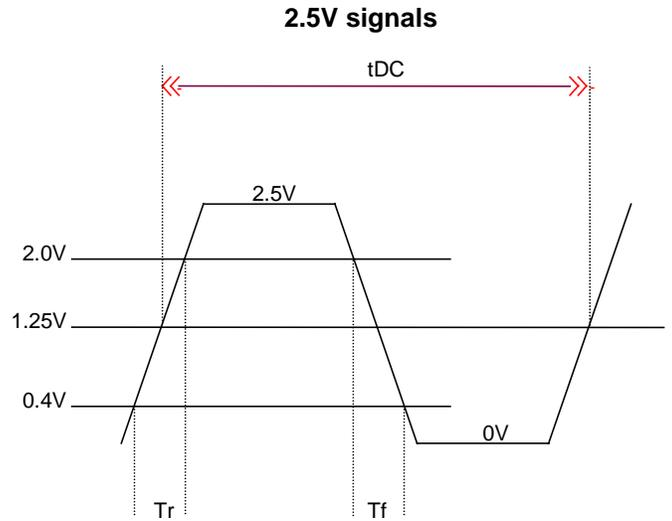

Fig.10B
- Note 3:** Probes are placed on the pins, and measurements are acquired between 0.4V and 2.4V for 3.3V signals and between 0.4V and 2.0V for 2.5V signals (see Fig.10A and Fig.10B)